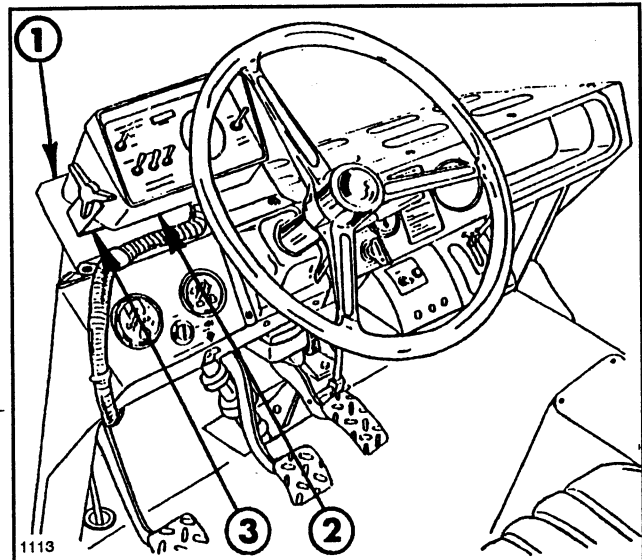

FIG. 5
3. Temporarily mount the console mounting bracket to the upper dash support using two of the earlier removed screws and washers (FIG. 5).
4. Using (2) 1/4" x 5/8" hex washer head screws, flat washers and nuts, secure the "U" shaped console bracket to the console bracket to the console mounting bracket. Mount the console to the "U" shaped bracket using the (2) mounting knobs (FIG. 5).